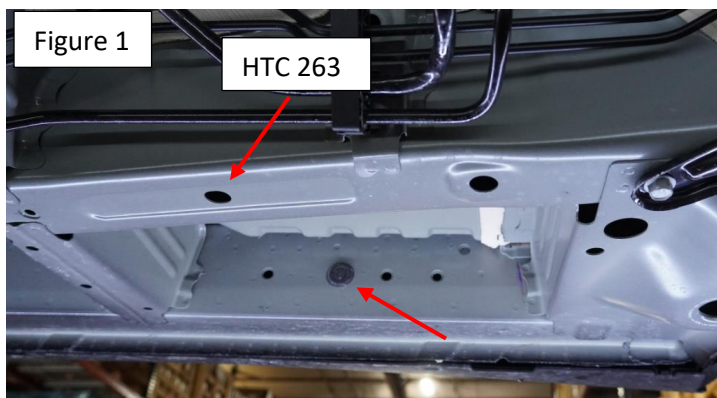

Figure 1
Step 3: Install provided HTC 263 as shown on Figure 1.